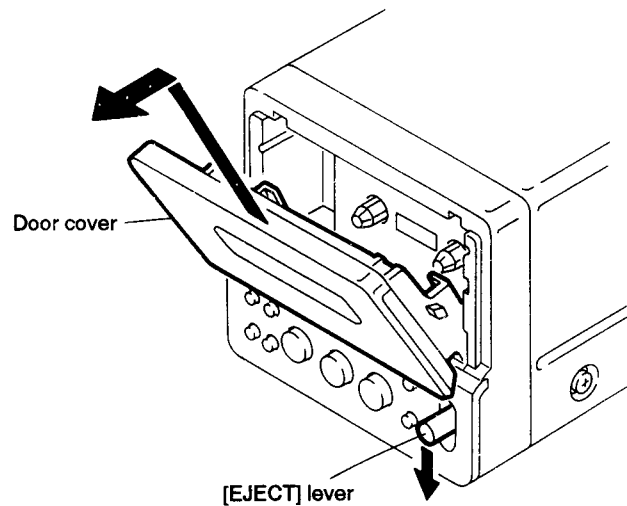

Fig. 5-2
■ Removing the cassette door cover (See Fig. 5-2)